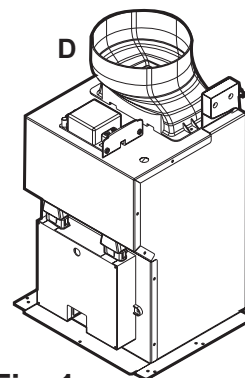

Fig. 1
- The air is discharged to the outside through a pipe, which must be fitted to connection flange **D**. **Fig. 1**.